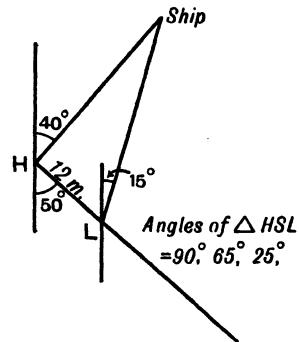

FIG. 90. DIAGRAM FOR EXAMPLE 2
2. A lighthouse, L, is 12 miles, S. 50° E., from the entrance of a harbour. At 9 a.m. a ship left the harbour. At 11 a.m. it is in a position N. 40° E. from the harbour and N. 15° E. from the lighthouse, Fig. 90. Find the speed of the ship in miles per hour.